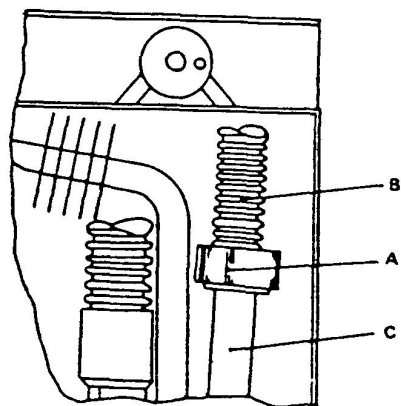

Fig. 14
7. Unscrew union nut (A, Fig. 14) of flexible exhaust pipe (B, Fig. 14) using a pipe wrench, remove flexible pipe and gasket from gas heating-pipe (C, Fig.14).